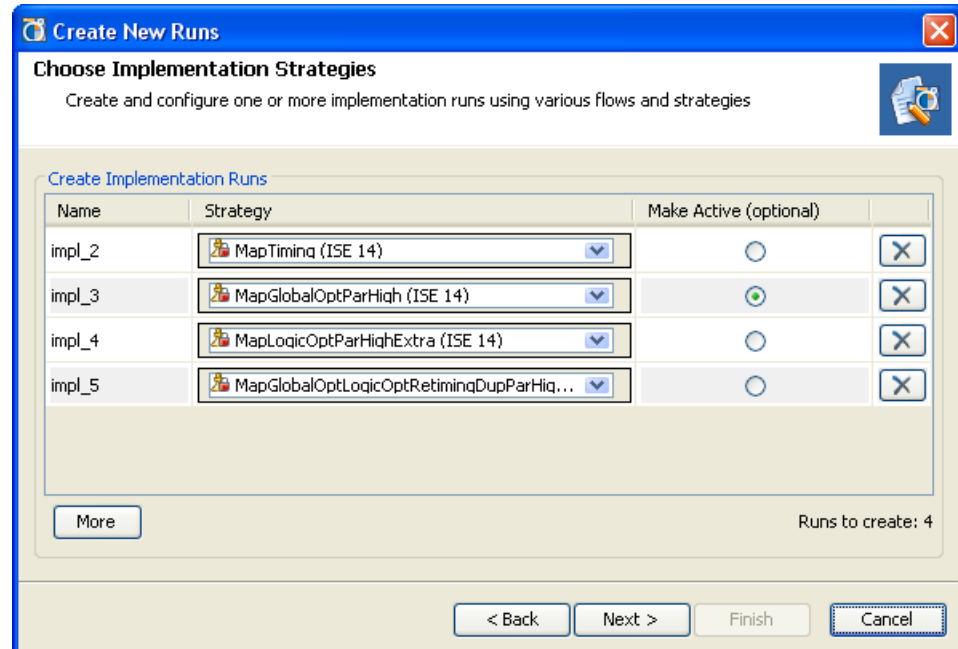

Figure 9-2: Choose Implementation Strategies
The **Choose Implementation Strategies** dialog box opens, as shown in Figure 9-2, page 309.
6. Click the **More** button to define additional runs. Specify names and strategies for the added runs as shown in Figure 9-2, page 309.